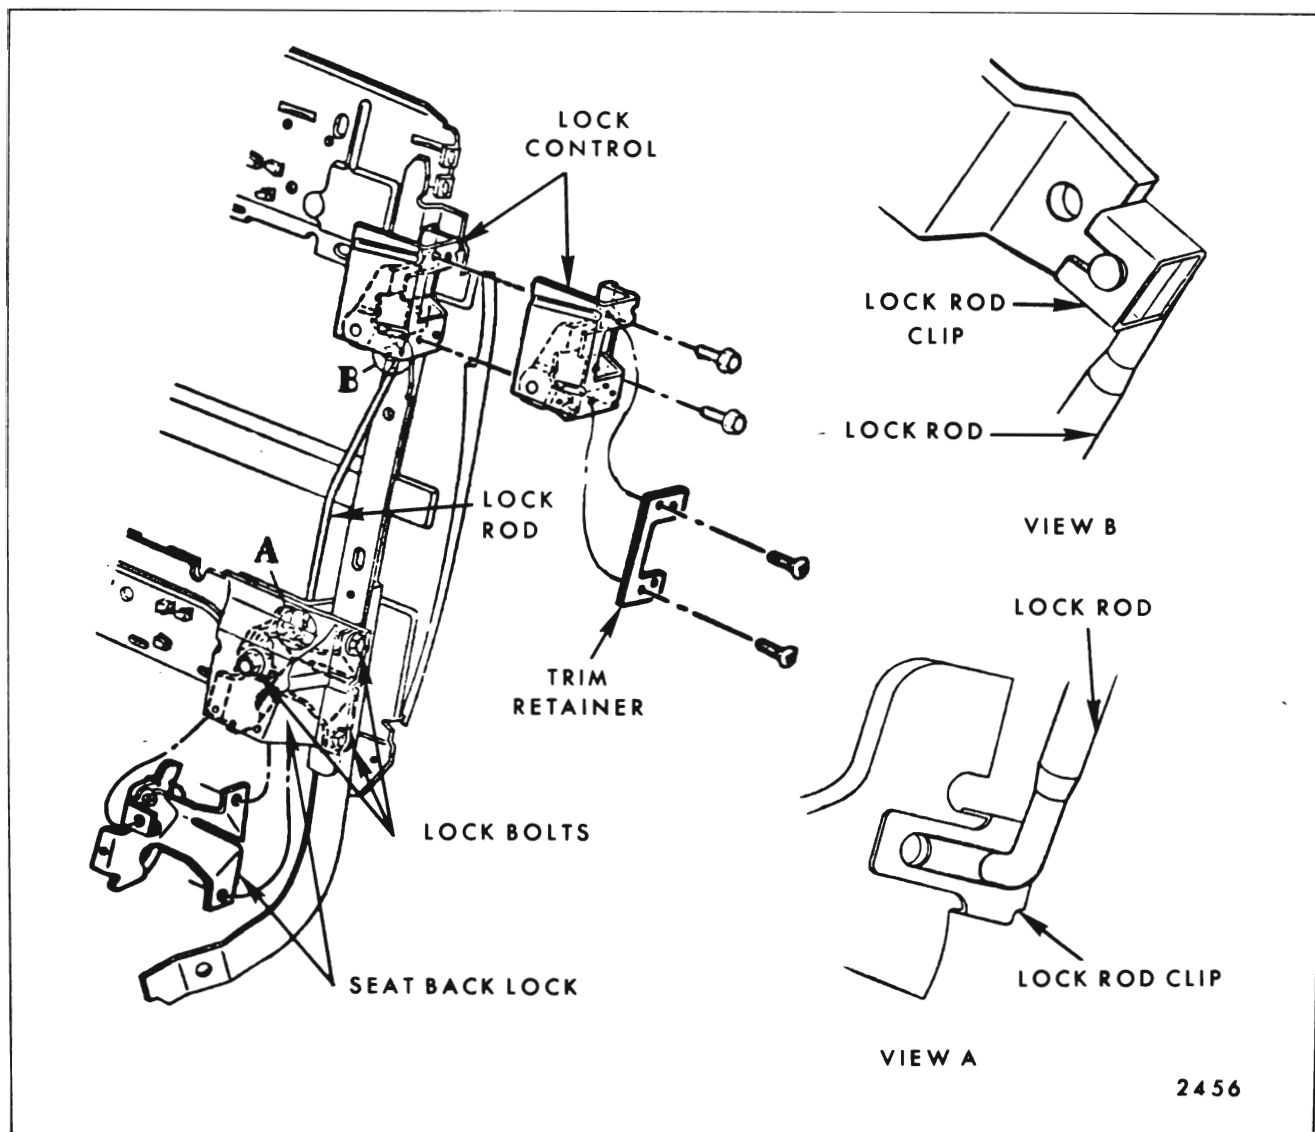

Fig. 15-21 — Front Seat Back Lock - "C & E" Body Two-Door Styles, Standard Full Width Seat
3. Remove seat back outer panel. Remove hog rings securing seat back panel or seat back trim panel along bottom and sides of seat. If removing lock, turn up seat back trim sufficiently to gain access to lock attaching bolts. If removing lock control or rod turn up trim to gain access to lock control bolts (See Figure 15-21).
4. a. To remove seat back lock, disengage lock rod clip at lock (Fig. 15-21) and detach rod from lock. Remove lock attaching bolts (Fig. 15-21) and remove lock from bottom of seat back.
- b. To remove seat back lock control, disengage lock rod clip at control (Fig. 15-21) and detach lock rod from control. Remove lock control attaching bolts (Fig. 15-21) and remove lock control from seat back.
- c. To remove lock rod, disengage lock rod clip at lock and at control (Fig. 15-21), detach lock rod from control and lock and remove lock rod from seat back.